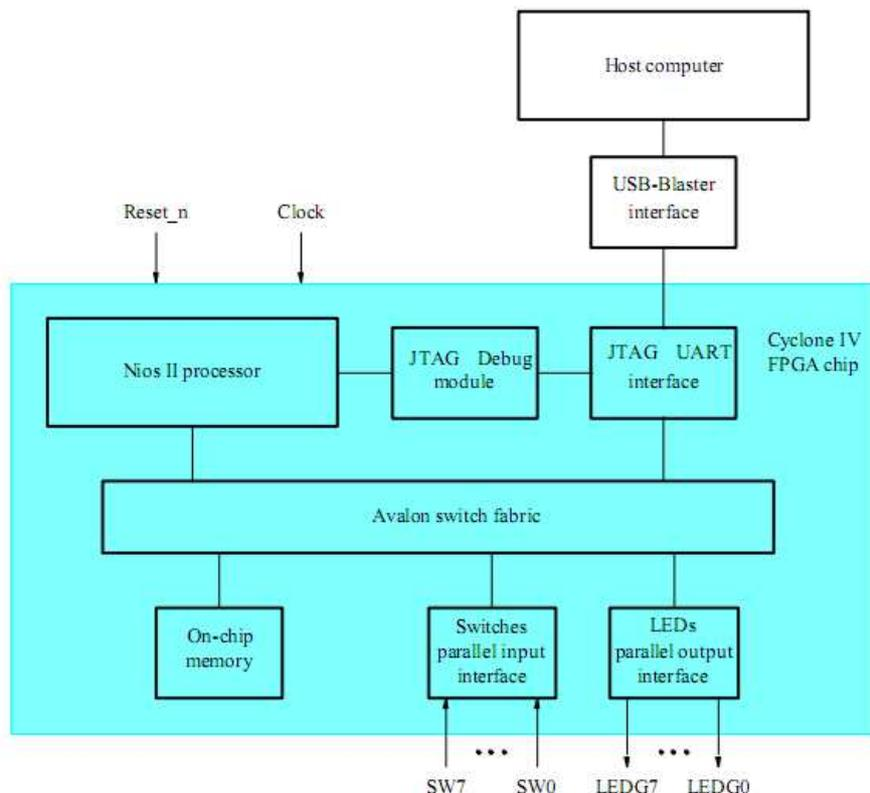
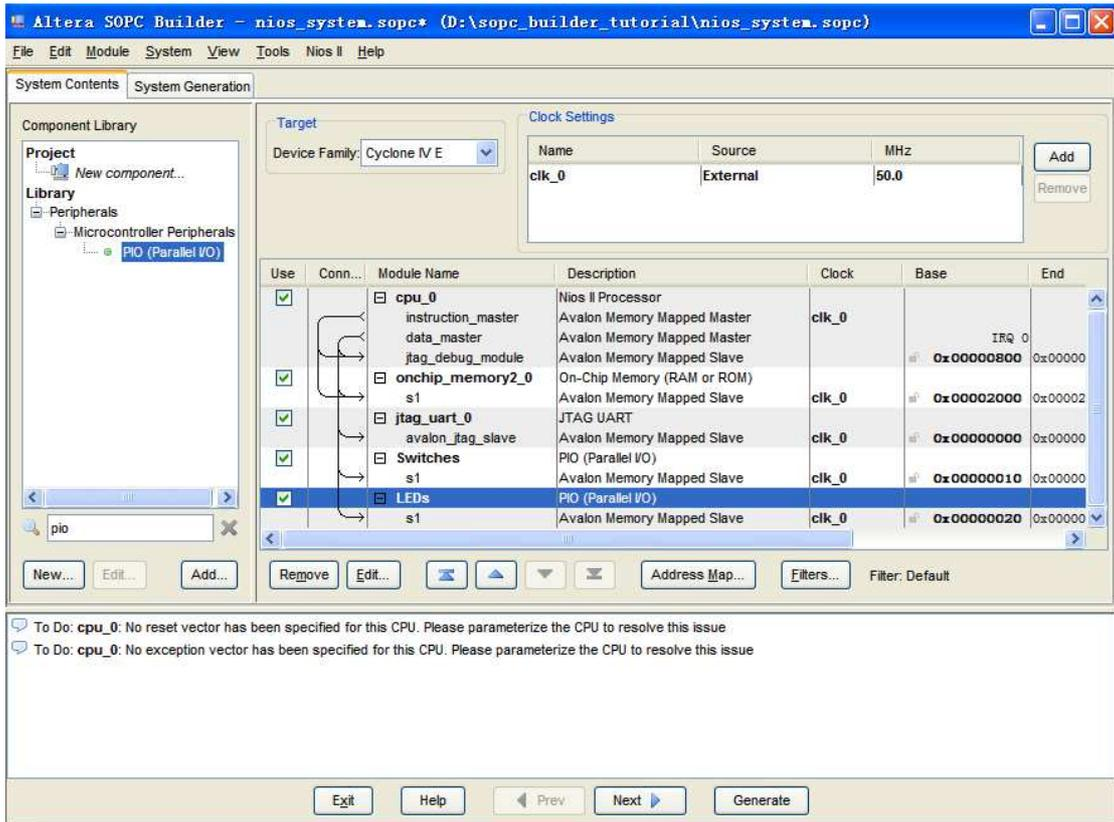

Figure 2.A simple example of a Nios II system.
Figure 13. The complete system.
Our example system is given in Figure 2. The system realizes a trivial task. Eight toggle switches on the DE2-115 board, SW_{7-0} , are used to turn on or off the eight green LEDs, $LEDG_{7-0}$. The switches are connected to the Nios II system by means of a parallel I/O interface configured to act as an input port. The LEDs are driven by the signals from another parallel I/O interface configured to act as an output port. To achieve the desired operation, the eight-bit pattern corresponding to the state of the switches has to be sent to the output port to activate the LEDs. This will be done by having the Nios II processor execute a program stored in the on-chip memory. Continuous operation is required, such that as the switches are toggled the lights change accordingly.
We will use the SOPC Builder to design the hardware depicted in Figure 2. Next, we will assign the Cyclone IV pins to realize the connections between the parallel interfaces and the switches and LEDs which act as I/O devices. Then, we will configure the FPGA to implement the designed system. Finally, we will use the software tool called the Nios II Debug Client to assemble, download and execute a Nios II program that performs the desired task.
The SOPC Builder is a tool used in conjunction with the Quartus II CAD software. It allows the user to easily create a system based on the Nios II processor, by simply selecting the desired functional units and specifying their parameters. To implement the system in Figure 2, we have to instantiate the following functional units:
10. The complete system is depicted in Figure 13. Note that the SOPC Builder automatically chooses names for the various components. The names are not necessarily descriptive enough to be easily associated with the target design, but they can be changed. In Figure 2, we use the names Switches and LEDs for the parallel input and output interfaces, respectively. These names can be used in the implemented system. Right-click on the pio_0 name and then select Rename. Change the name to Switches. Similarly, change pio_1 to LEDs.